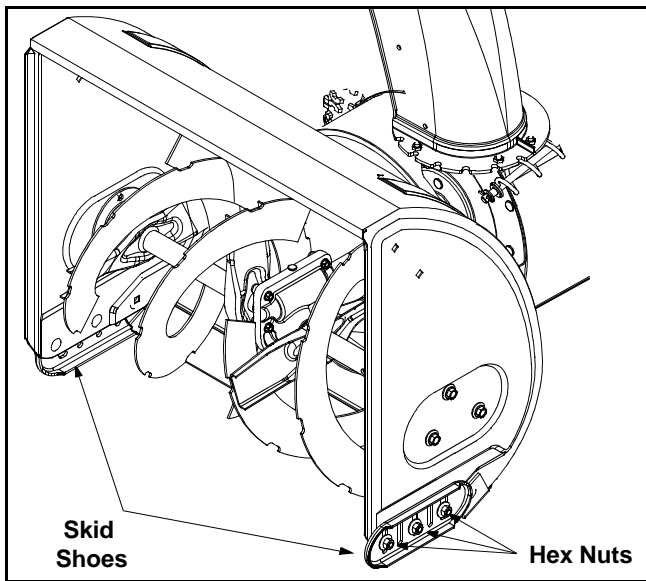

Figure 7
The space between the shave plate and the ground can be adjusted by repositioning the skid shoes found on either side of the snow thrower's auger housing. For close snow removal, place skid shoes in the low position. Use middle or high position when area to be cleared is uneven. See Figure 7.
- Make certain the fuel shutoff valve is in the OPEN (vertical position). See Figure 7.
- Move throttle control up to FAST position. Insert ignition key into slot. See Figure 7. Be certain it snaps into place. **Do not turn key.**